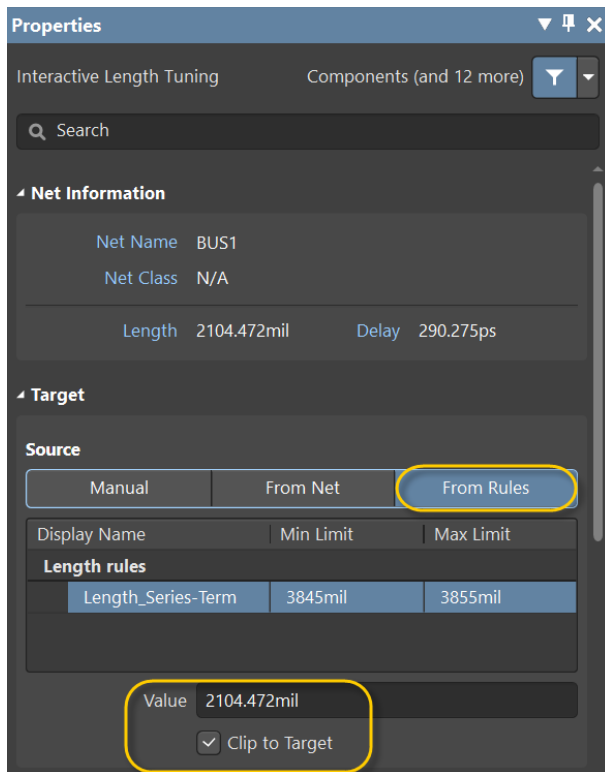

Figure 13. Length Tune from the Length Rule
29. From the *Properties* panel, in the *Target* section, ensure the *Source* is set to **From Rules** as shown in Figure 13.